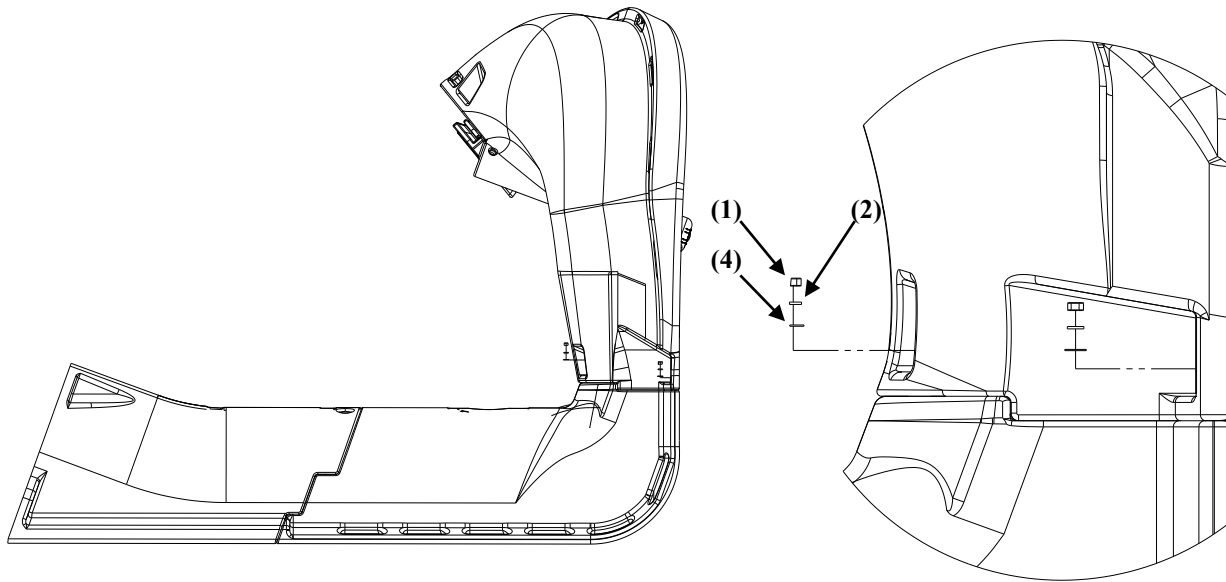

Figure 8
- 9) Lay the ladder assembly on the ground with the steps facing down as shown in Figure 8. Lift the upper runway section and align the threaded studs sticking out of the top ladder section with the holes in the upper runway section. Attach the runway to the ladder using the hardware shown in Figure 8. Tighten until the lock washer is fully compressed. **Notes: It may take more than one person to perform this step. Verify that the gasket material is properly attached before assembling the parts. Be sure to apply anti-seize to all fasteners to prevent galling.**